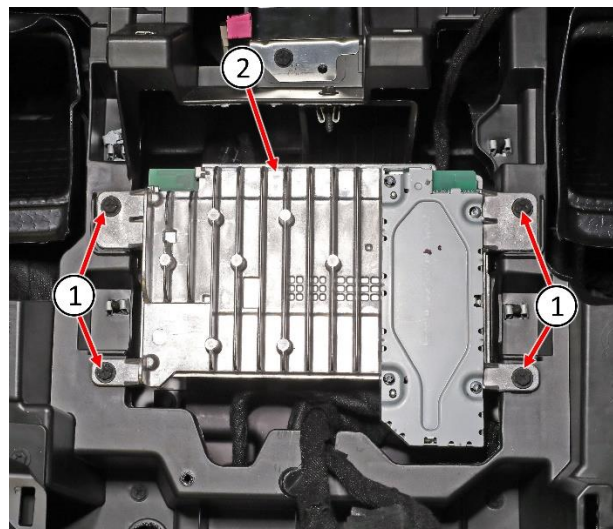

Figure 16 – Radio
24. Remove the four screws (1) securing the radio (2) then position the radio aside (Figure 16).
37. Position the radio (2) then install the four screws (1) and tighten securely (Figure 16).